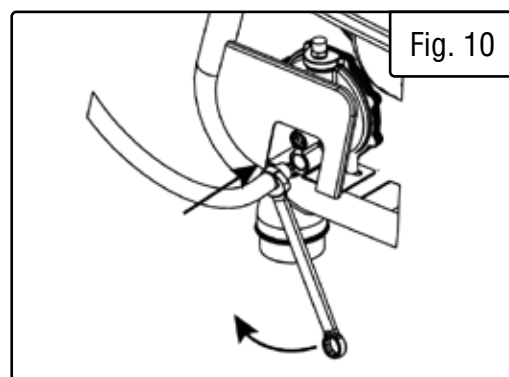

Fig. 10
3. Connect the opposite regulator connecting hose end to the generator's LPG primary regulator with a 3/4 in. (19mm) wrench (not supplied) (Fig. 10).